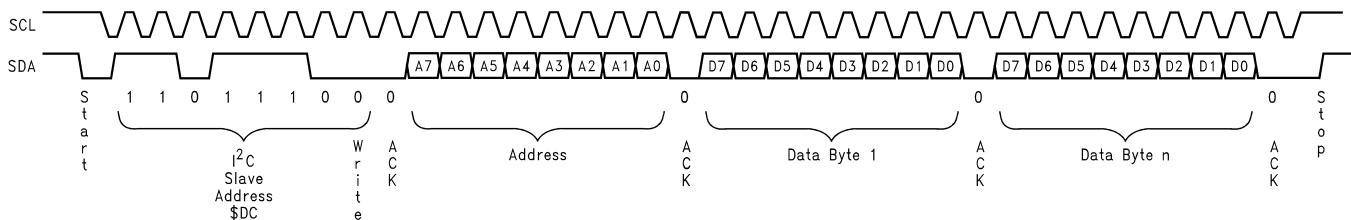
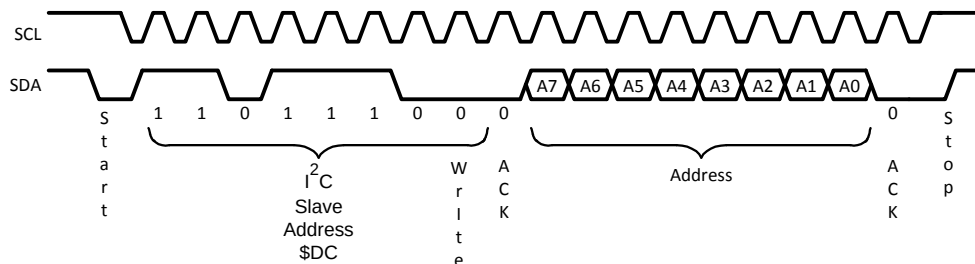
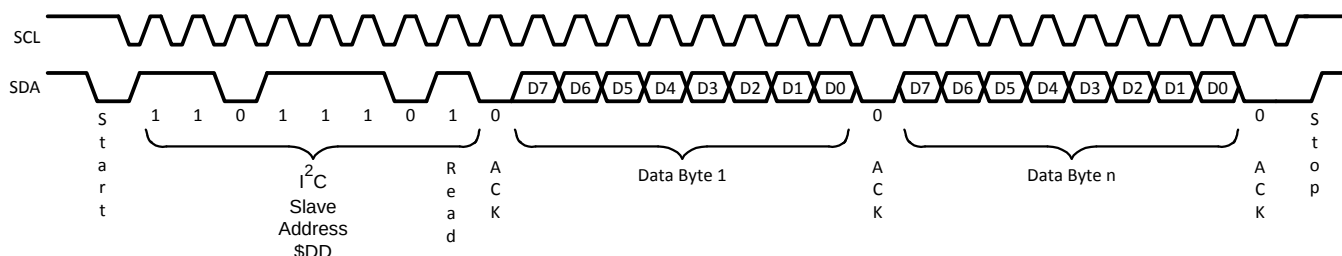

Figure 9. LMH1982 Write Sequence
Figure 10. LMH1982 Read Sequence – Address Access Transfer
Figure 11. LMH1982 Read Sequence – Data Read Transfer
The protocol of the I²C interface begins with the start pulse followed by a byte comprised of a seven-bit slave device address and a read/write bit as the LSB. Therefore, the address of the LMH1982 for write sequences is DDh (1101 1101). Figure 9, Figure 10, and Figure 11 show a write and read sequence across the I²C interface.
The write sequence begins with a start condition, which consists of the master pulling SDA low while SCL is held high. The slave device address is sent next. The address byte is made up of an address of seven bits (7:1) and the read/write bit (0). Bit 0 is low to indicate a write operation. Each byte that is sent is followed by an acknowledge (ACK) bit. When SCL is high the master will release the SDA line. The slave must pull SDA low to acknowledge. The address of the register to be written to is sent next. Following the register address and the ACK bit, the data byte for the register is sent. When more than one data byte is sent, it is automatically incremented into the next address location. See Figure 9. Note that each data byte is followed by an ACK bit.
The address access transfer shown in Figure 10 consists of a start pulse, the slave device address including the read/write bit (a zero, indicating a write), then its ACK bit. The next byte is the address to be accessed, followed by the ACK bit and the stop bit to indicate the end of the address access transfer.
The subsequent read data transfer shown in Figure 11 consists of a start pulse, the slave device address including the read/write bit (a one, indicating a read) and the ACK bit. The next byte is the data read from the initial access address. Subsequent read data bytes will correspond to the next increment address locations. Each data byte is separated from the other data bytes by an ACK bit.